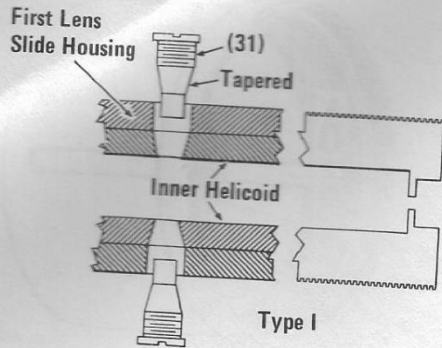
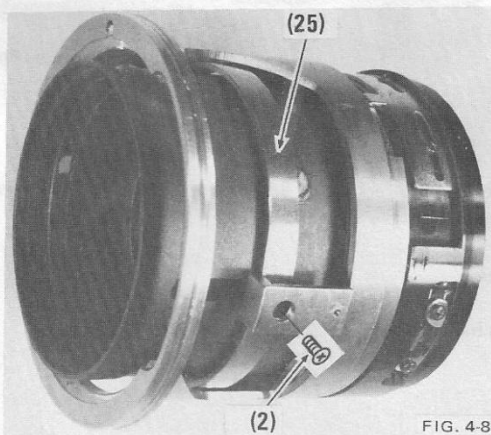

FIG. 4-21
FIG. 4-8
- b) Position bridge ring so that the holes in the bridge ring arms align with holes in the top of roller shafts (39). Apply thread sealant to the screws (2) and seat them firmly in the roller shafts making sure that the ring is square with the helicoid. Fig. 4-8.
- c) Rotate middle helicoid to infinity position; then push bridge ring (25) to the rear of the lens until it stops.
h) Adjust the depth of slide screw (31) in the assembly as follows:
1. Type I Helicoid. Fig. 4-21.
There are two types of inner helicoids used in the lens. In Type I the edges of the first lens group cam slot, and the sides of the slide screws (31) are beveled. Fig. 4-21.
- a) Remove flat head screws (2) that attach bridge ring (25) to the inner helicoid assembly. Fig. 4-8.